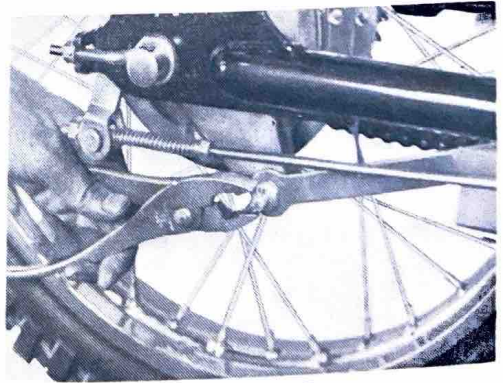

Fig. 4-2-2
- Remove the anchor bar and brake rod attached to the rear brake shoe plate. (Figs 4-2-2,3 and 4) Please note the location and condition of all cotter keys and, other safety devices. Reinstall them carefully and correctly and never hesitate to replace them when necessary.